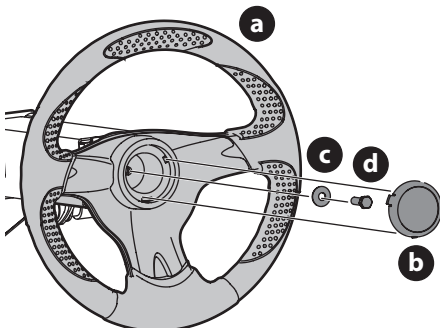

**Figure 11**
- Secure with two screws (one right side, one left side) removed in Step 2 (Figure 11).